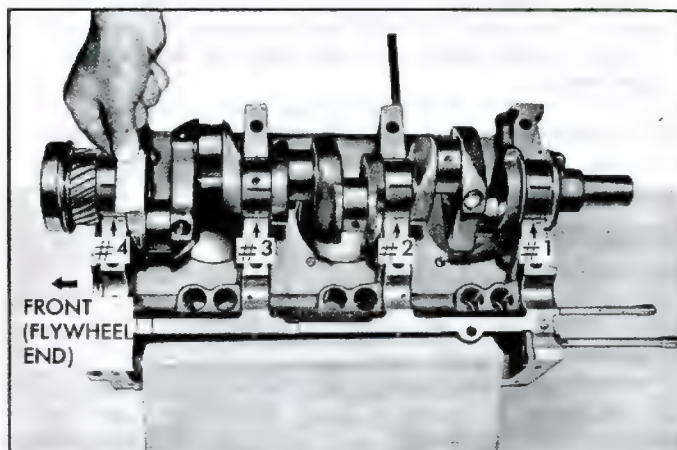

Fig. 122—Measuring Gauging Plastic on Journal
2. Place a piece of gauging plastic the full width of the bearing parallel to the crankshaft on the journal (fig. 122).
- Without removing the gauging plastic, check its compressed width (at the widest point) with the graduations on the envelope (fig. 122).
NOTE: Install a piece of plastic hose with 5/16" I.D. over each bolt (fig. 122).